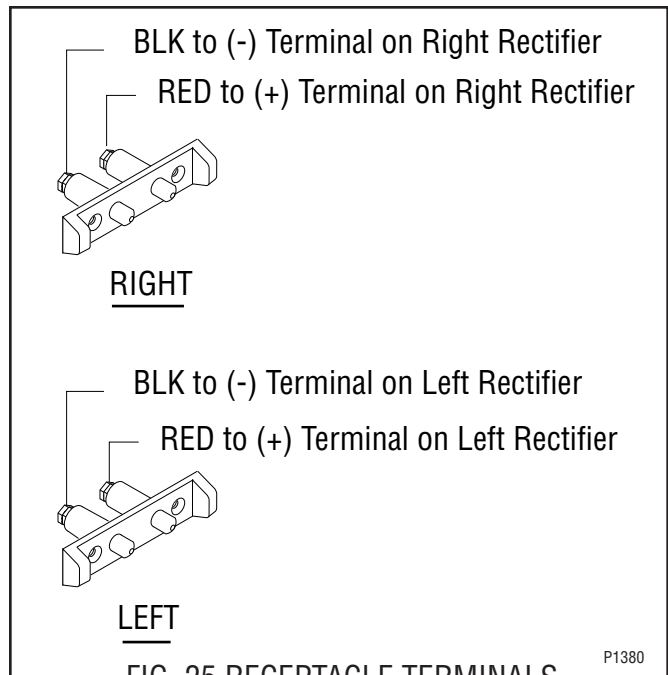

FIG. 25 RECEPTACLE TERMINALS P1380
6. Refer to Fig. 25 and reconnect the wires.